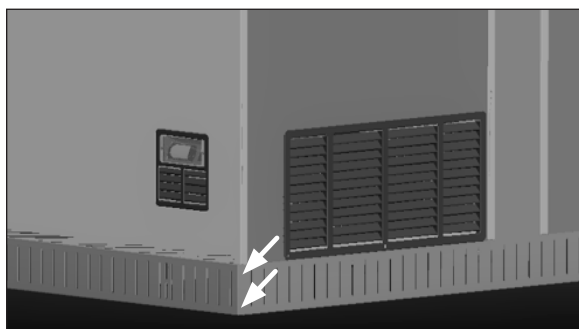

Fig. 6 Side skirting board corner connections
8. Install the side skirting board (Fig. 6).